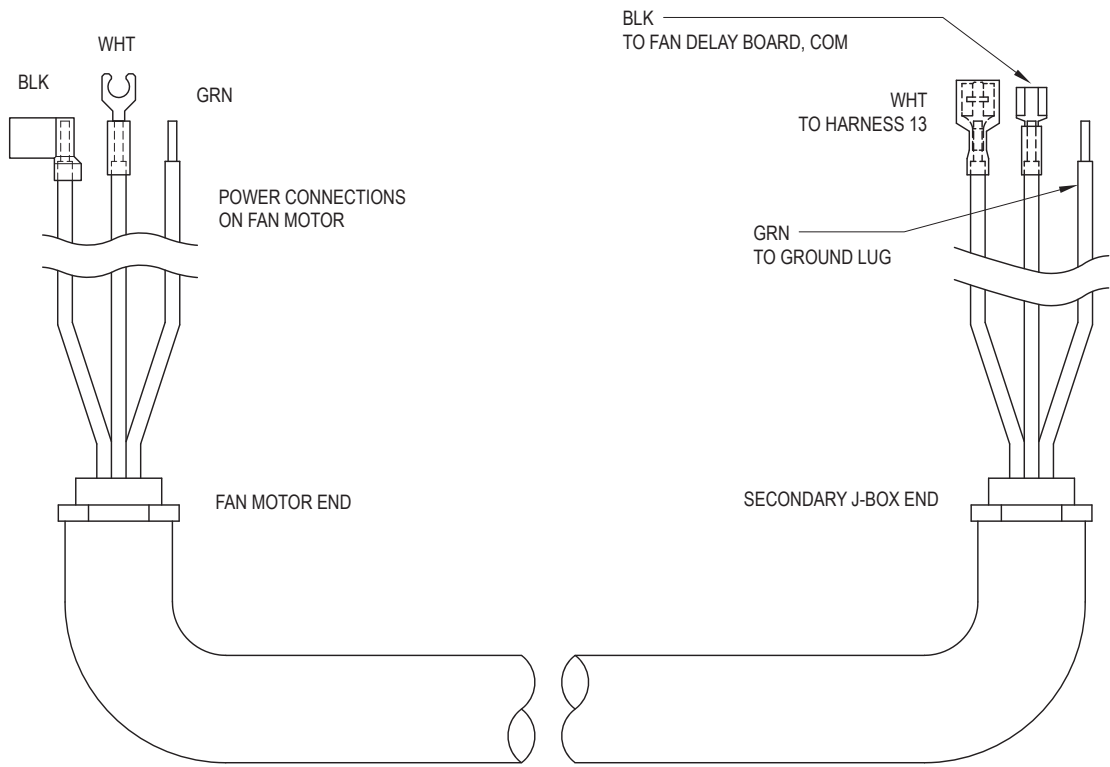

Figure 22. Harness 11, Models 2100-4001
17. Connect the HARNESS 11 wires to the wiring inside the PV control box per **Figure 22**.
19. Connect the HARNESS 11 leads to the fan motor per **Figure 22**.
23. Connect the HARNESS 12 wires to S1 and S2 on the motor, per **Figure 22**.